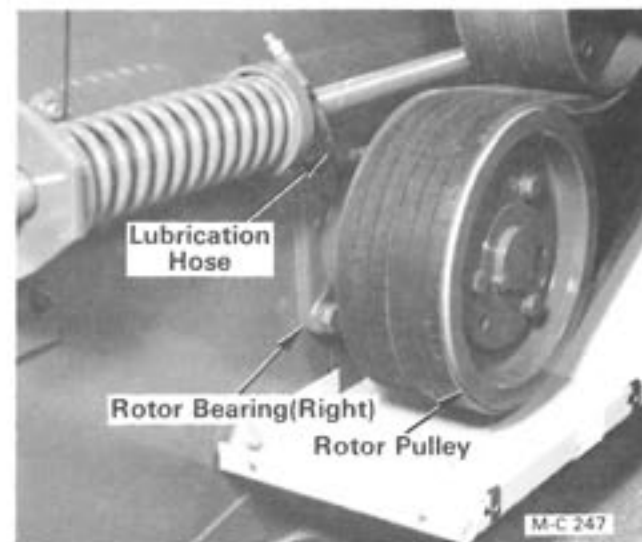

Figure 42
2. Remove the belt guard cover, lubrication hose and back belt guard, see Figure 42. Remove the drive belts. Refer to "Drive Belt Replacement" page 18 for procedure.